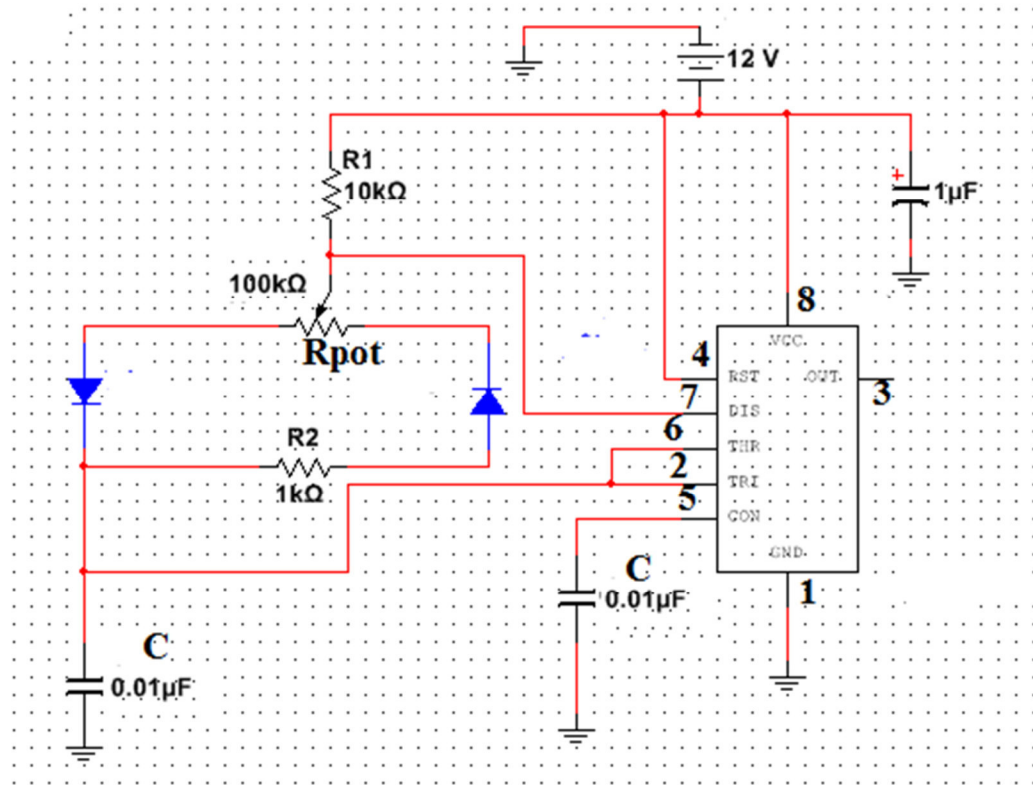

Figure 11.5: 555 Timer As Astable Multivibrator to Generate Fixed Frequency and Variable Duty Cycle Signal
- Implement the astable multivibrator circuit using 555 timer IC on breadboard, to generate switching signal as shown in Figure 11.5 on breadboard.
- Implement the buck-boost converter as shown in the Figure 11.5. Remember base terminal of the BJT will be attached to pin 3 of 555 timer IC.